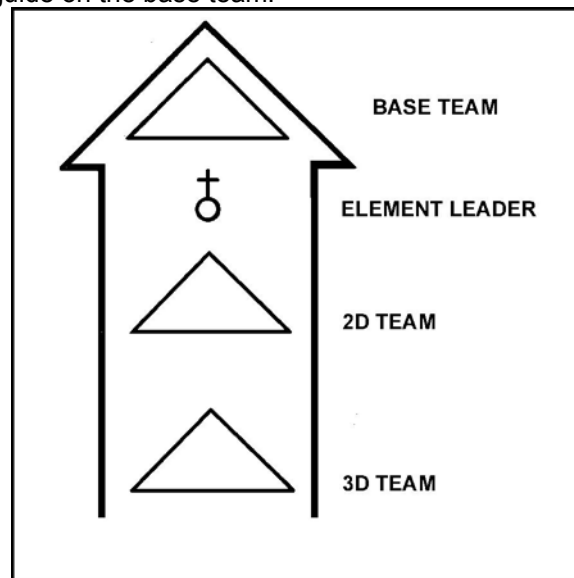

Figure 1. Dismount element column.
- Select the dismount element column as the primary movement formation (Figure 1). It has good dispersion in depth and makes control easier. It provides limited fire to the front but a high volume of fire to the flanks. The lead fire team is usually designated as the base team. The other fire teams guide on the base team.